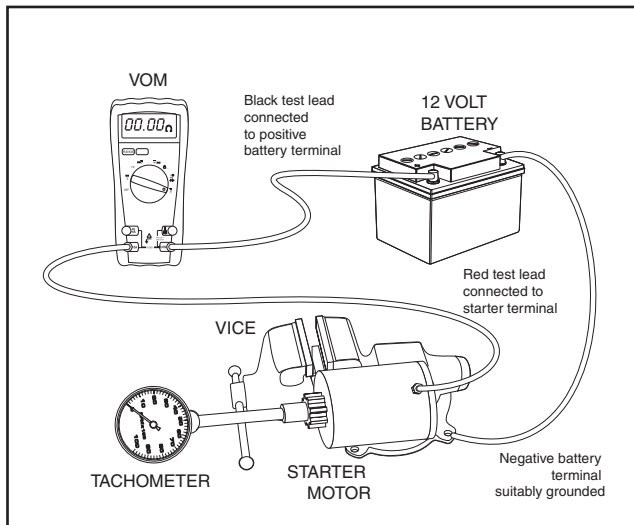

Figure 7-21 – Starter Performance Test
2. Connect the starter motor, battery and VOM as shown in Figure 7-21.